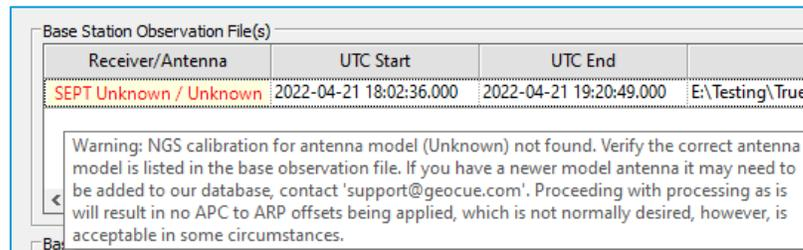

Figure 147 - NGS Antenna Calibration Not Found
- a) **Base Antenna Calibration File** - During GNSS processing, whether local in LP360 Drone for 2DIS, in POSPac desktop, or using POSPacCloud, the antenna type must be known for the software to apply the proper antenna phase center (APC) to antenna reference point (ARP) offsets. LP360 Drone will automatically read the antenna model, if present, from the base RINEX file and display it black in the dialog if the antenna is a known type for which it has the antennae calibration. If the antenna model is unknown or not stipulated in the RINEX file, or no antenna calibration exists for the specified model then the antenna model will display in red (Figure 147). Hovering over the antenna model will provide a tooltip with the explanation, "Warning: NGS calibration for antenna model (Unknown) not found. Verify the correct antenna model is listed in the base observation file. If you have a newer model antenna it may need to be added to our database, contact 'support@geocue.com'. Proceeding with processing as is will result in no APC to ARP offsets applied, which is not normally desired, however, is acceptable in some circumstances."